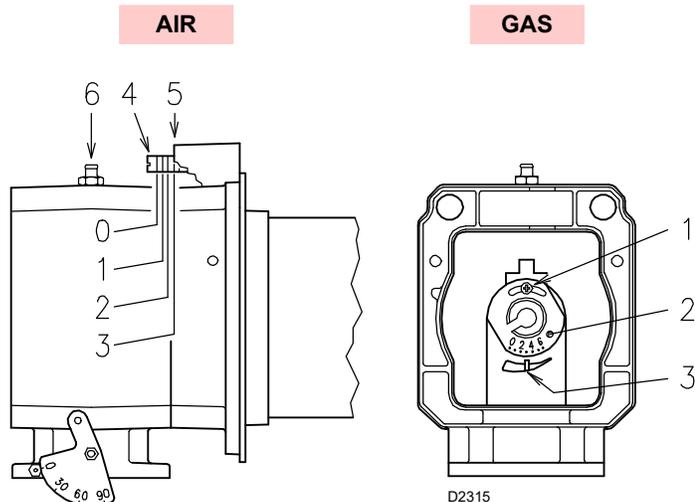
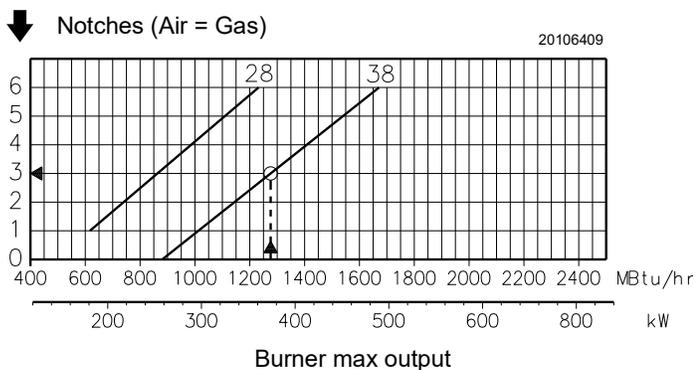

Fig. 12
Fig. 13
Installation operations are now at the stage where the blast tube and sleeve are secured to the boiler as shown in Fig. 12.
When the MIN output is within the value range given in Tab. F, the gas ring 2)(Fig. 12) is adjusted to zero.
In diagram (Fig. 13), depending on the MAX output, find the notch to use for adjusting the air and the gas.
**Air adjustment (Fig. 12)**
**Gas adjustment (Fig. 12)**
The MIN output of 300 MBtu/hr is not found in the values of Tab. F and therefore diagram (Fig. 13) is valid, from which it results that for a MAX output of 990 MBtu/hr the gas and air adjustments are done on notch 4, as in Fig. 12.
Diagram (Fig. 13) shows the ideal settings for the ring 2)(Fig. 12).
If the gas supply pressure is too low to reach the max output operation pressure indicated in Tab. G, and if the ring 2)(Fig. 12) is not fully open, it can be opened wider by 1 or 2 notches.
Continuing with the previous example, Tab. G indicates that for burner RS 28/E with output of 990 MBtu/hr a pressure of approximately 2.2" WC is necessary at test point 6)(Fig. 12).
If this pressure cannot be reached, open the ring 2)(Fig. 12) to notch 4 or 5.
- The same as the previous case: follow diagram (Fig. 13).
- The gas ring 2)(Fig. 12) is always adjusted to position 0, irrespective of the MAX burner.
- Gas ring 2)(Fig. 12) adjusted as indicated in diagram (Fig. 13)